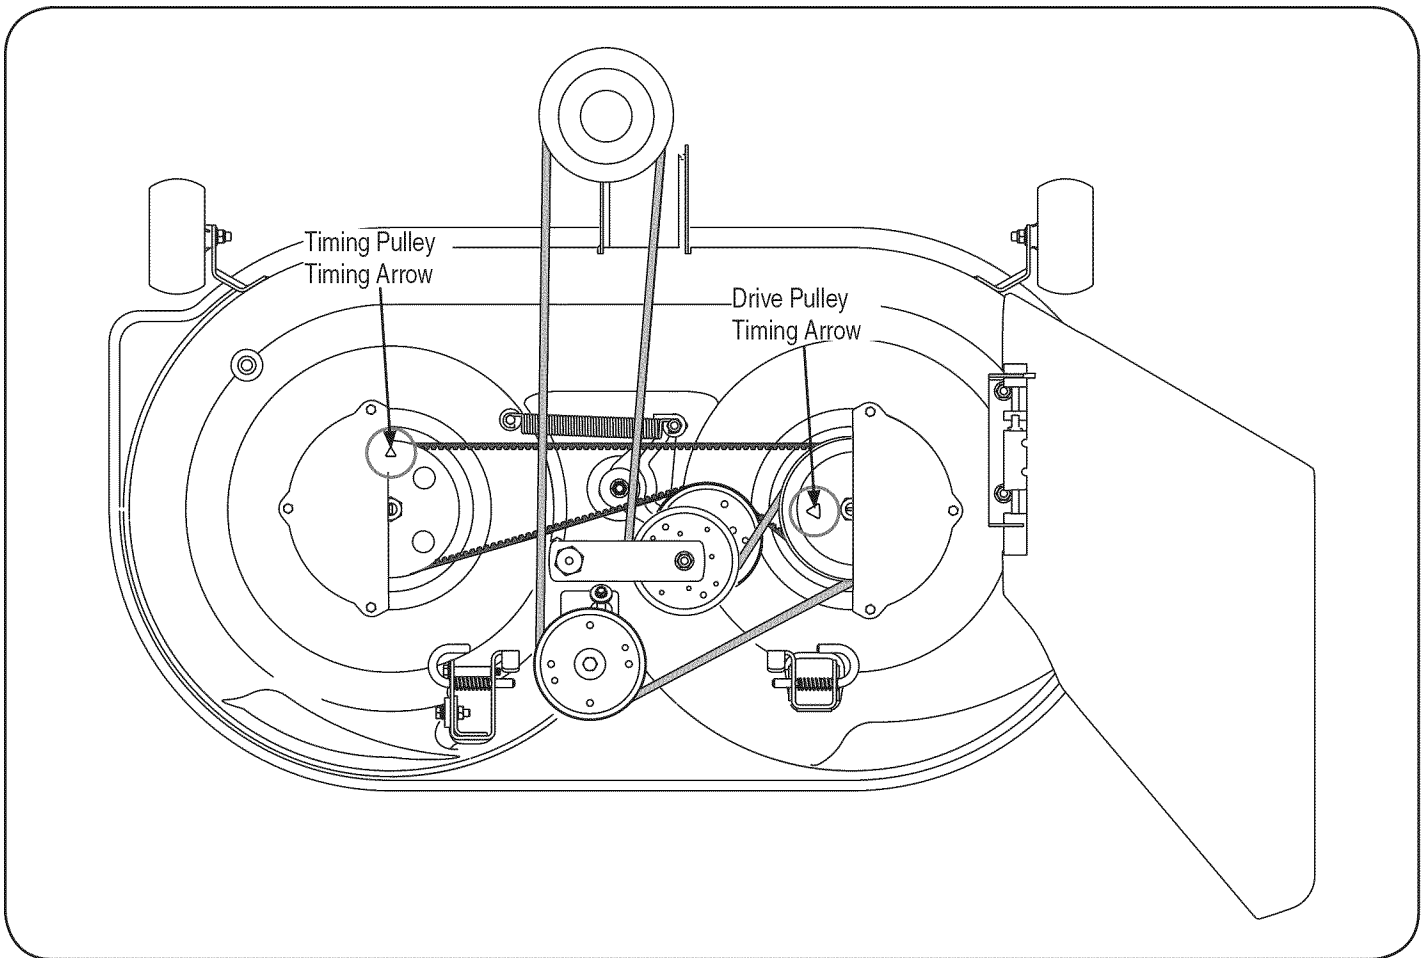
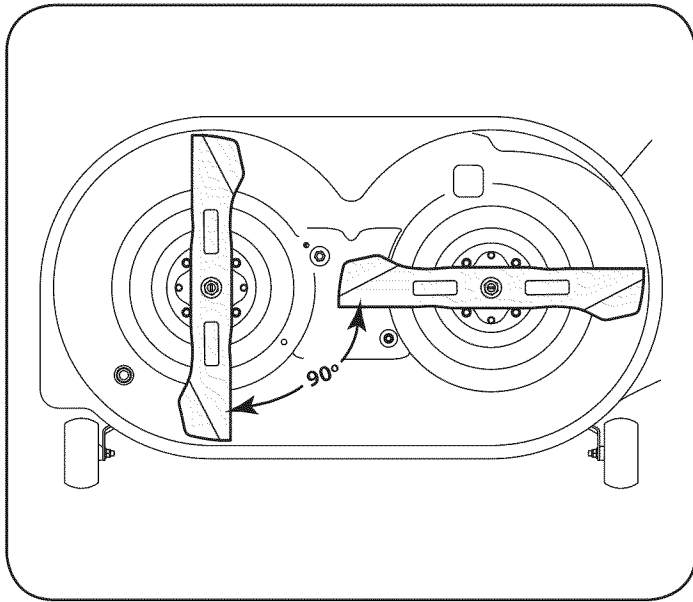

Figure 23
Figure 24
- Note the arrows on the top of the timing pulley on the LH spindle and on the drive pulley of the RH spindle assembly. These timing arrows **MUST** be positioned  $90^\circ$  from each other as shown in Figure 23.
- Turn the LH timing pulley so that its timing arrow is  $90^\circ$  from the RH spindle assembly timing arrow. Refer to Figure 23.
- After making sure the spring is hooked onto the idler bracket and screw, pivot the timing idler bracket/idler pulley against the spring tension just far enough to allow you to lower the backside of the timing belt onto the idler pulley. See Figure 23.
- Re-check the timing arrows on the two pulleys. If they have moved from the  $90^\circ$  position when tensioning the timing belt, pivot the idler pulley to relieve tension on the belt and re-position the pulleys. **The timing arrows MUST be positioned  $90^\circ$  from each other as shown in Figure 23.**
15. If the timing belt was installed correctly and the timing arrows were positioned as shown in Figure 23, the cutting blades should be in the position shown in Figure 24.